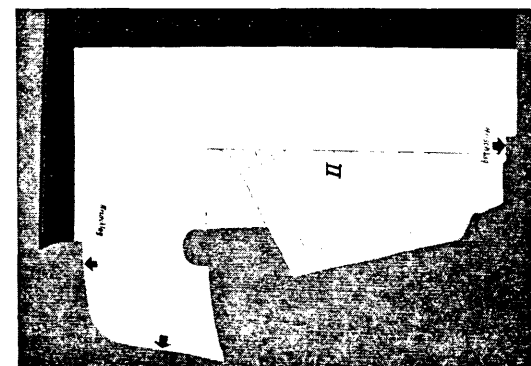

Fig. 8
- 12 - Cut cardboard lining to template II and place it in luggage compartment. Fig. 8.